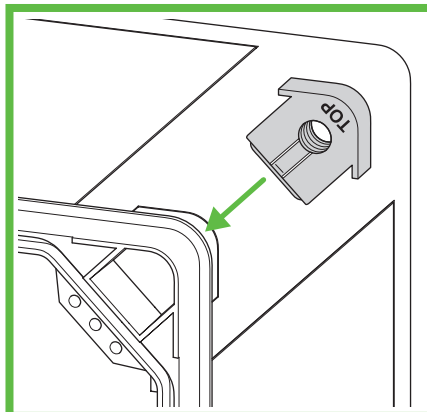
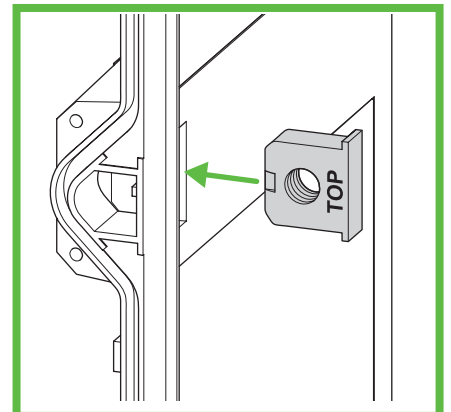

Figure 8: Mount the threaded insert (corner)
Figure 9: Mount the threaded insert (side)
- ▶ Mount the threaded inserts (Figure 8 and Figure 9). The lettering "TOP" must point to the housing cover.